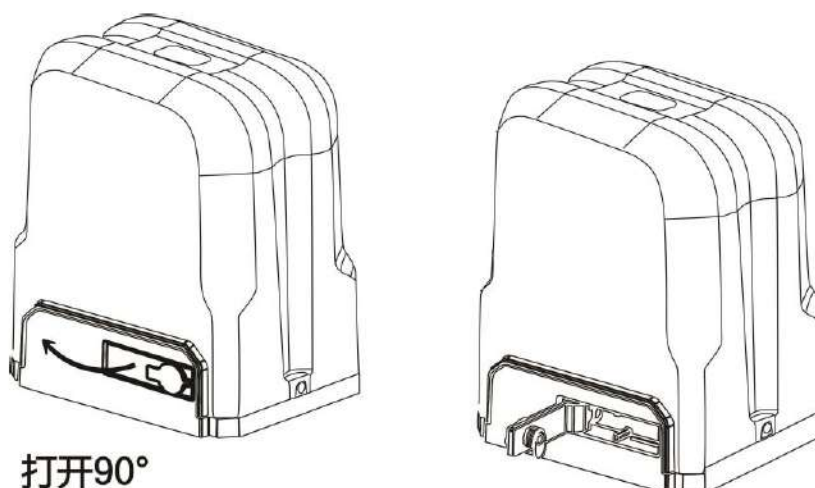

Figure 5: Turn on 90°
- Please unlock the main engine before installation, the unlock method is: take out the key cover, insert the key, and open the manual release bar till it rotates by 90° as shown in Figure 5. Then turn the output gear and the gear can be rotated easily;